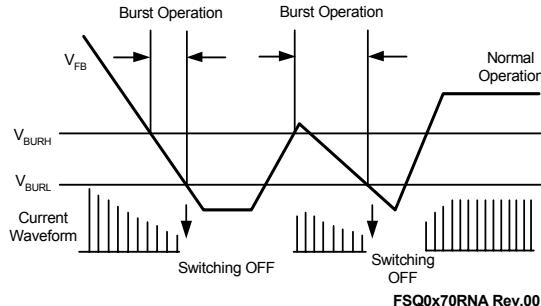

Figure 17. Burst Operation Function
**6. Burst Operation:** To minimize power dissipation in standby mode, the FPS enters burst-mode operation. Feedback voltage decreases as the load decreases, as shown in Figure 17, and the device automatically enters burst-mode when the feedback voltage drops below  $V_{BURH}$  (typically 600mV). Switching continues until the feedback voltage drops below  $V_{BURL}$  (typically 400mV).